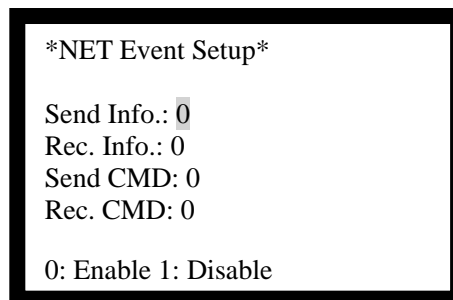

Fig. 6-45
- ◇ Set the panel to display network message or not by entering number 2, as shown in Fig. 6-45.